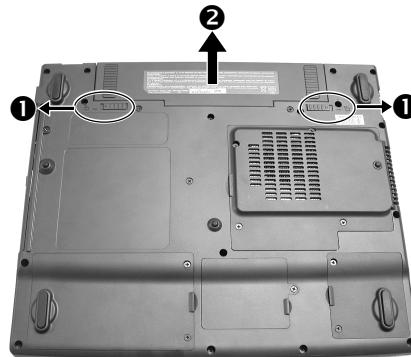

Figure 2-1 Remove the battery pack
2. Slide the two release lever outwards to the “unlock” (□) position (①), while take the battery pack out of the compartment (②). (Figure 2-1)